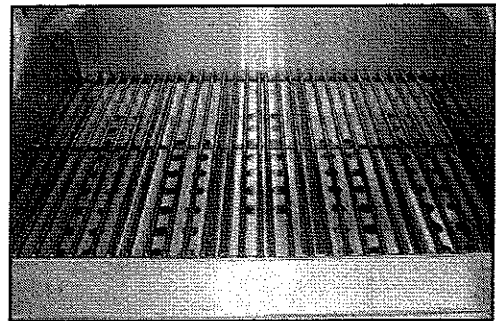

Fig. 14
2. Install cooking grates on the ledges provided on the grill to create your cooking surface. (See Fig. 14)